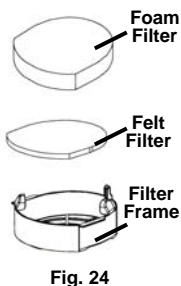

Fig. 24
- When the filters are dry, replace them into the dry filter frame. Insert the felt filter (filter 2) first and then place the foam filter (filter 1) over the felt filter. (Fig. 24)